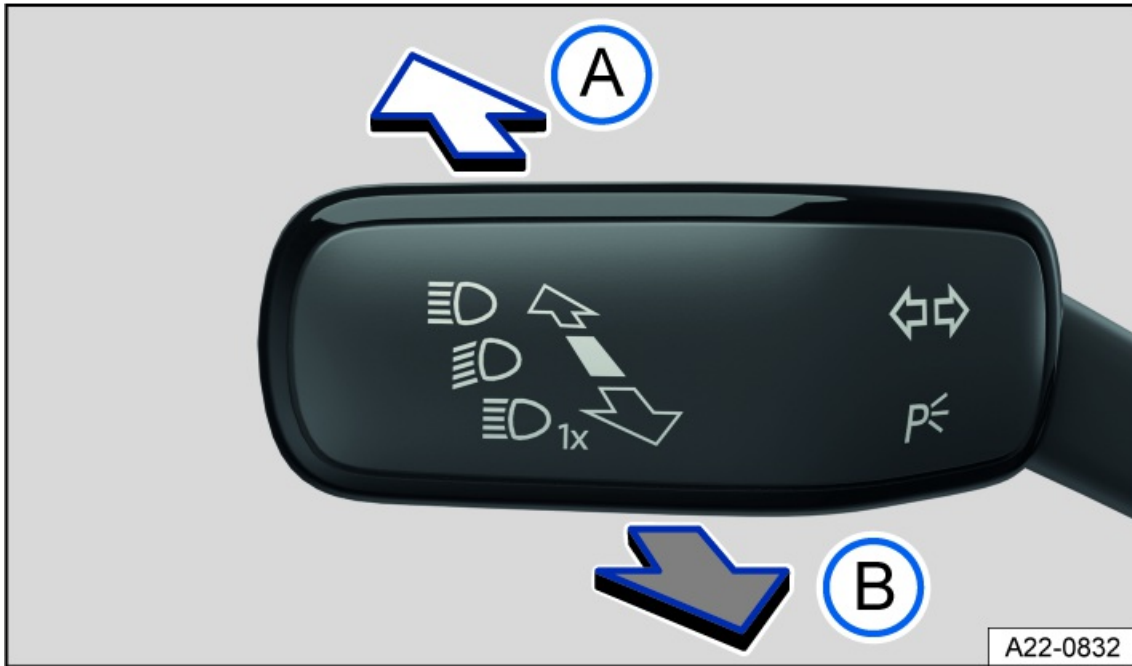

Fig. 79 On the left side of the steering column: turn signal and high beam lever.
3. Press the turn signal and high beam lever forward out of the center position *fig. 79*.
1. Pull the turn signal and high beam lever backward out of the center position *fig. 79*.
1. Pull the turn signal and high beam lever backward out of the center position and hold it *fig. 79*.